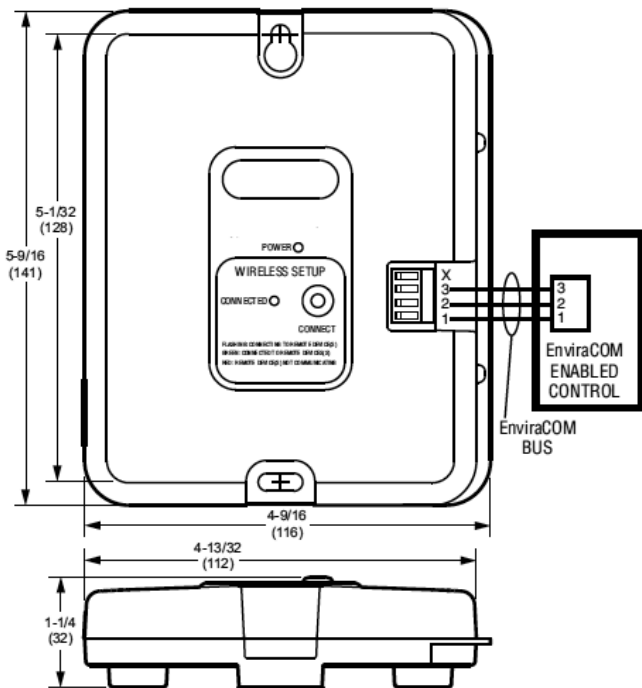

Figure 1, Wireless Receiver Module Wiring Diagram
4. Wire the 1, 2, and 3 terminals on the Wireless Receiver Module to the 1, 2, and 3 terminals on the EnviraCOM™, IQ Boiler Control, IQ Option Panel, Intelligent Hydronic Control, Sage Control, or IQ Zone Panel or anywhere on the bus where access to the EnviraCOM bus is available and convenient. See Figure 1.